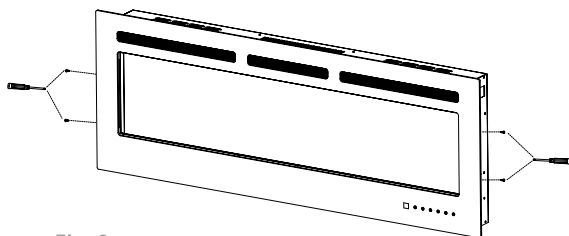

Fig. 8
2. Place the unit with the front facing up on a soft, flat surface. Remove the screws located on both sides of the front glass panel (see Figure 8). Keep the screws for reinstalling the glass panel.